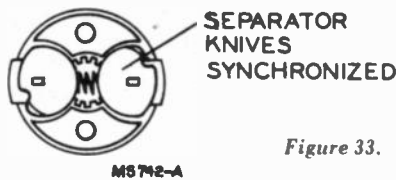
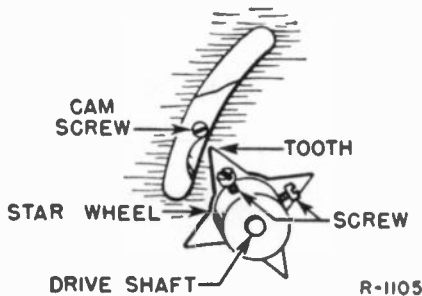

Figure 33.
Figure 34—Star Wheel Timing.
1. Turn the star wheel so that the separator knives are in the position indicated in Figure 33 for rotating gear type of separators or fully retracted for push-out separators.
2. Loosen the two set screws (61) sufficiently to permit the star wheel to rotate without disturbing the shaft (7).
3. Rotate the star wheel points directly to a cam screw or nose screw (visible through slot) as shown in Figure 34.
4. Tighten the two set screws (61) and rotate the mechanism through a complete cycle to check operation. The separator knives must rotate  $360^\circ$  to the starting position as indicated in Figure 33.